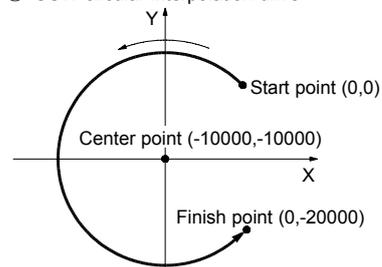

Fig.2 Example of CCW circular interpolation
【Setting procedure for the operation of Fig.2】
- ~ ③ Same as Fig.2